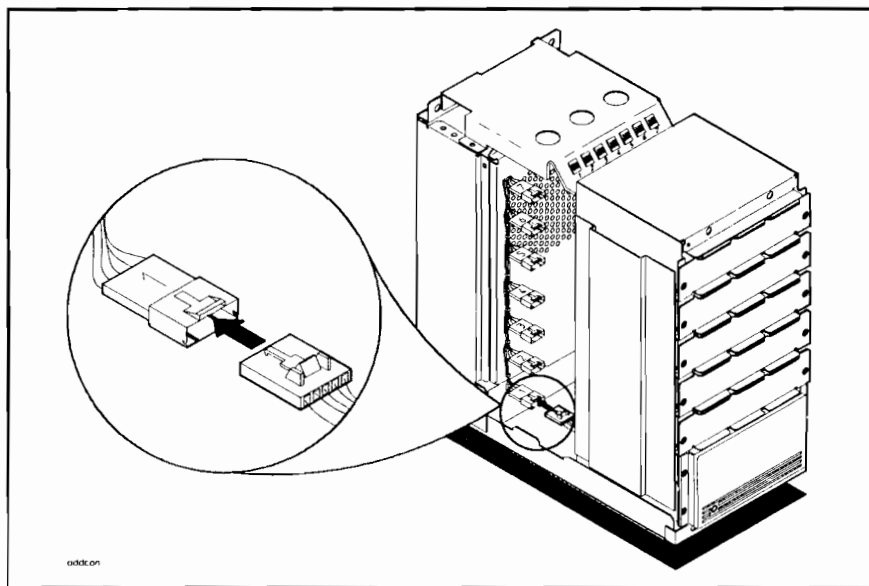

Figure 2-7. Internal Address Cable
2. The internal address cable has connectors — one for each shelf (see Figure 2-7). The shelf number is printed on each internal address cable connector. For 1-shelf devices, connect the address cable corresponding to the shelf position occupied by the device. For 2-shelf devices, connect the address cable corresponding to the *lowest* shelf position occupied by the device.
The internal address cable in your mass storage system is either a wire-type cable (shown in Figure 2-7) or a flexible circuit-type cable. Both cables use the same type connectors.